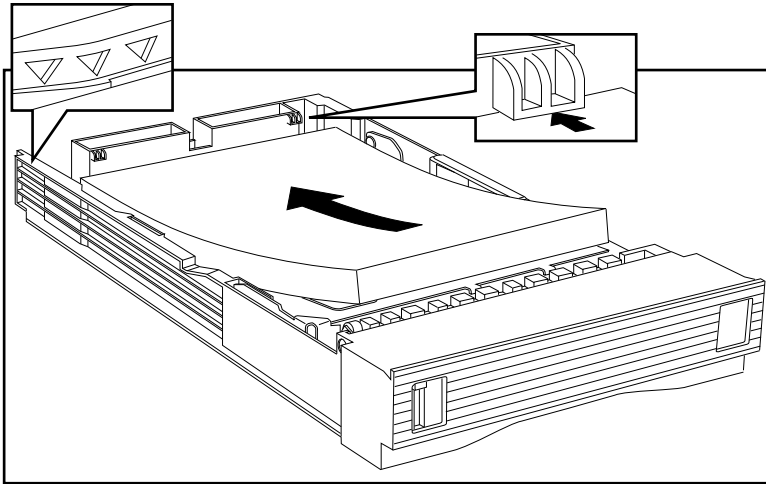

Fig. 6.2 Load the Paper Cassette
3. Slide the paper printing side down, short edge first. Then press down to make sure the paper is flat and under the metal clip at the left front of the cassette (fig. 6.2).